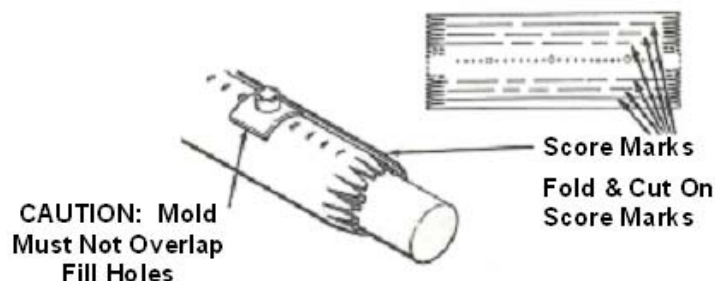

Figure 11
2. On small cables, where mold overlaps mold fill-holes, reduce mold width by folding, then cutting on appropriate score marks. (Figure 11)